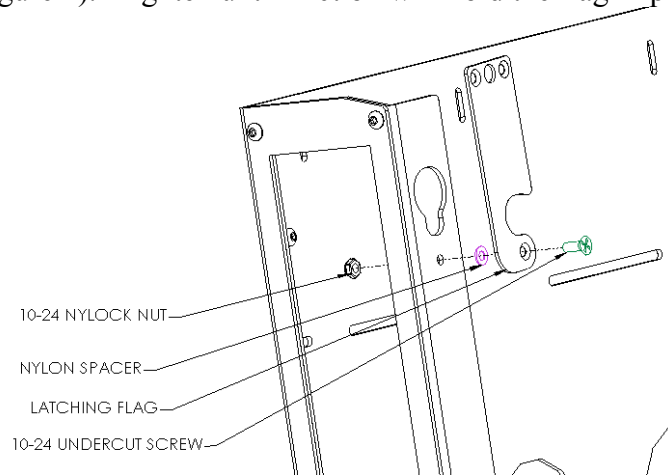

Figure 4
2. Attach latching flag to mount using the 10-24 phillips flat head screw, Nylon washer, and Nylock nut (see Figure 4). Tighten until friction will hold the flag in place.